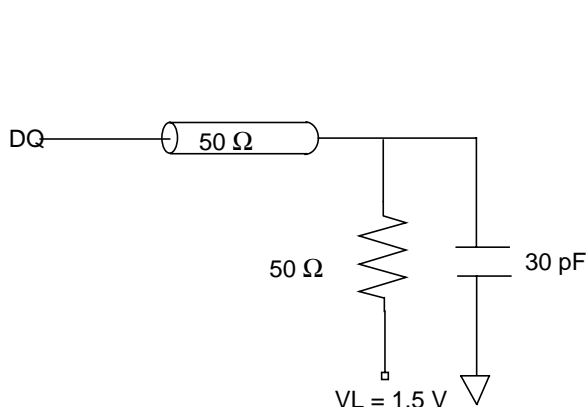

Fig. 1 Test Equivalent Load
3. See AC Test Loading figure 1 on page 8.